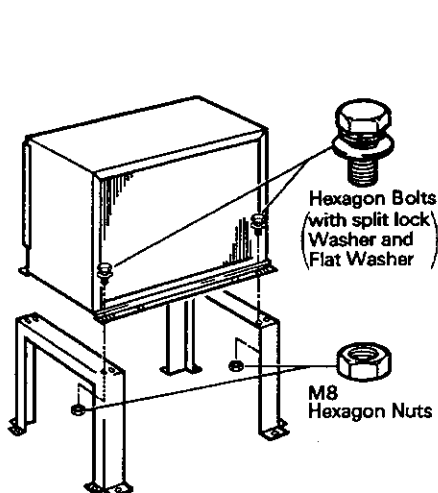

Fig. 11
- 1) Secure the Legs to the condenser unit with eight M8 x 16 mm Hexagon Bolts and M8 Nuts as shown in the illustration. (See Fig. 11.)